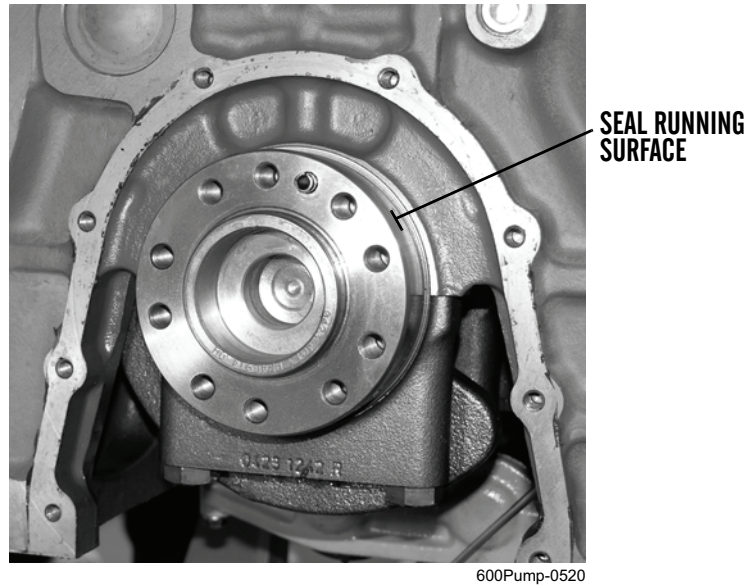

Figure 4. Inspecting Seal Running Surface on Crankshaft Flange.
3. Inspect seal running surface on crankshaft flange for wear (Figure 4). If a run-in groove is noted, new rear main seal must not be installed at same depth as old seal. Refer to *Installation* in this work package for instructions.